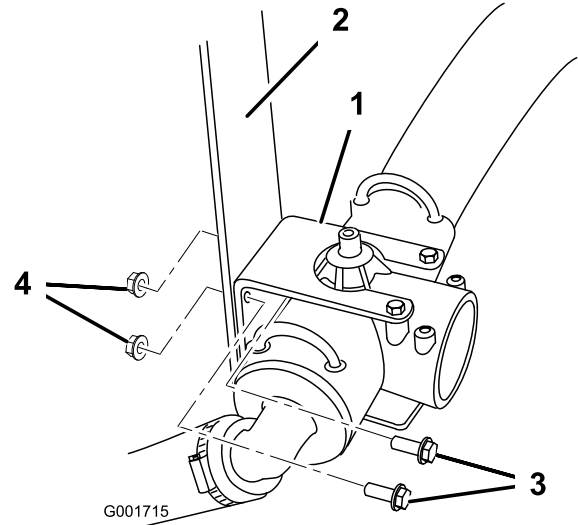

Figure 7
2. Remove the two bolts and two nuts securing the supply tee and supply tee mounting bracket to the vehicle (Figure 7). Retain the fasteners for later use.